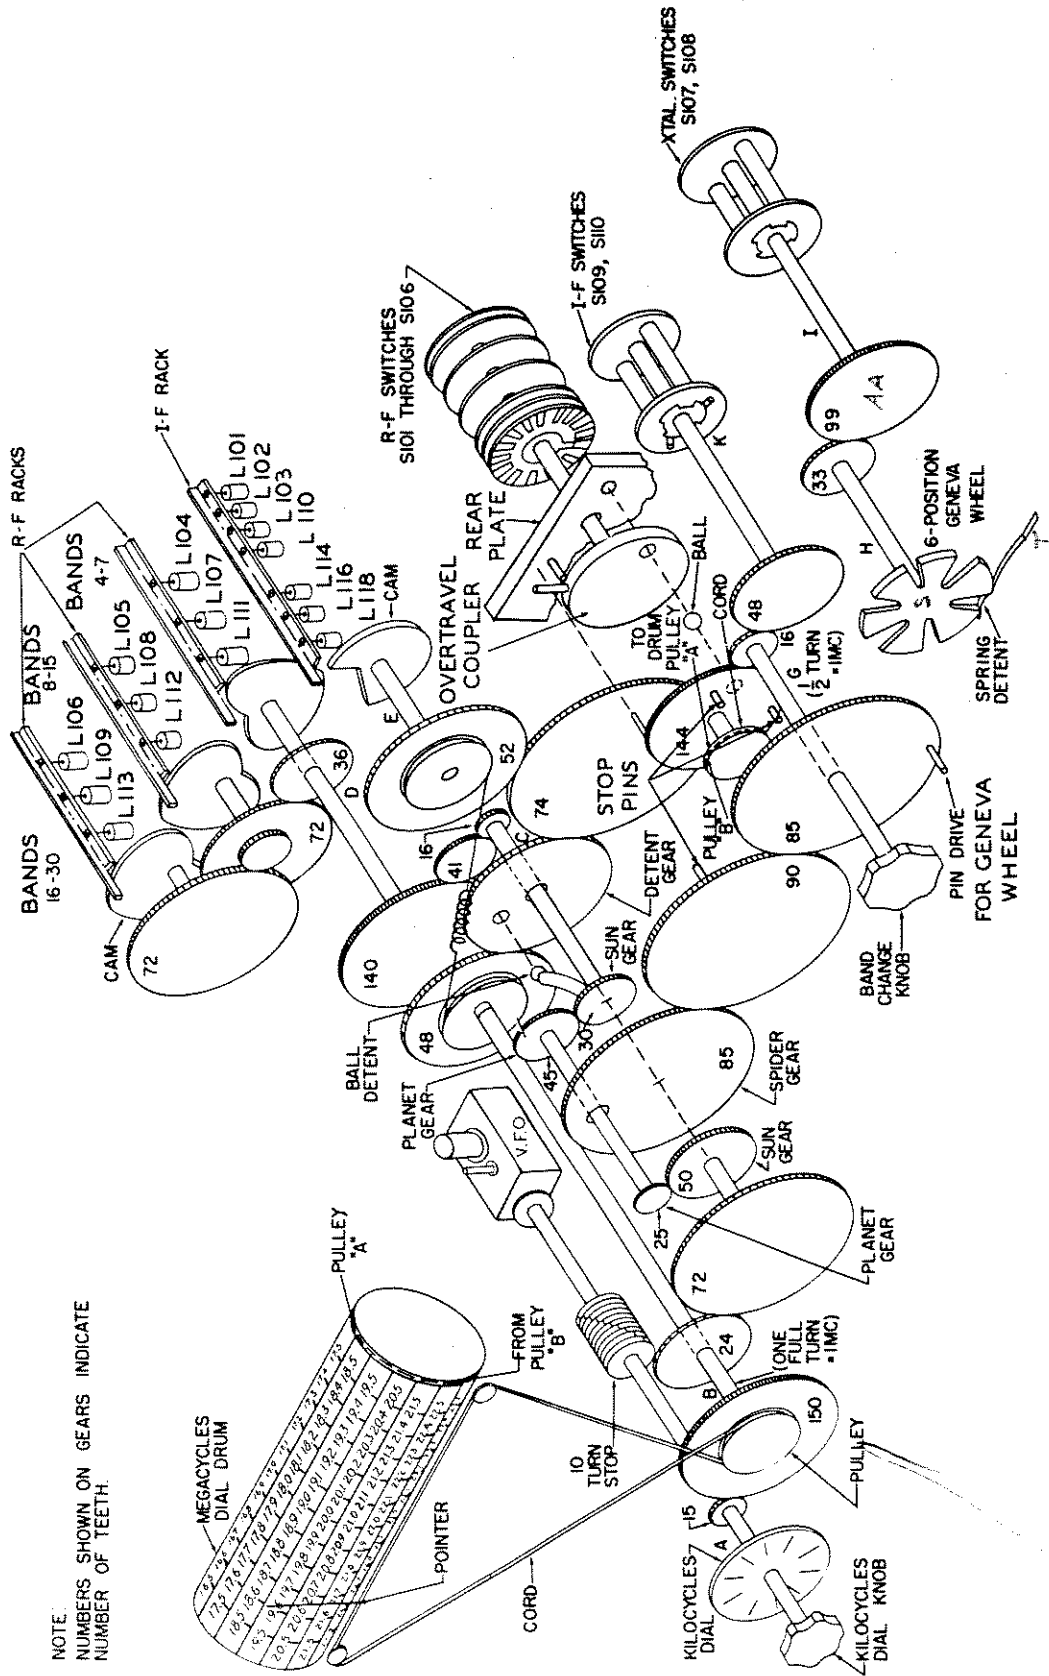

Figure 4-2 Mechanical Block Diagram
Switch sections of the band switch are ganged with the three slug tables through an overtravel coupler. This overtravel coupler drops the band switch at band 16 and continues to operate one position for each band as usual. Refer to figure 4-2. This mechanical diagram shows the gears and connecting shafts associated with band change and tuning. Shafts associated with changing bands are C, D, G, H, I, K, and the overtravel shaft. On band 1 radio frequency coils L101 and L110 are switched by means of the BAND CHANGE knob through the overtravel shaft and shaft G. On bands 2 and 3, the r-f coils are selected by the BAND CHANGE knob through the overtravel shafts and shafts G and K, variable i-f coils L116 through L119 being used as additional r-f coils on these bands. On bands 4 to 7, the coils
4.1.2. TUNING. - All r-f, mixer and variable i-f coils, as well as the variable frequency oscillator coil, are permeability-tuned by powdered iron cores. While tuning, these slugs move in and out of the coils at a rate determined by a cam or by a lead screw. Four slug racks or tables are used in the 5LJ-2 receiver to perform the function of tuning the r-f, mixer and variable i-f stages. The group of three slug tables in the rear portion of the chassis tunes the r-f and first mixer stages when the receiver is operating in the 3.5 to 30.5 mc frequency range (bands 4 to 30). The fourth slug table, located at the right hand edge of the receiver, tunes the r-f stage, the first mixer grid, the third mixer grid and the variable i-f coils when receiving in the range 0.5 to 1.5 mc. It tunes the r-f stage and variable i-f coils L116 and L118 when receiving in the range 1.5 to 2.5 and 2.5 to 3.5 mc. When receiving in the range 3.5 to 30.5 mc, this slug table tunes only the variable i-f coils L116 and L118. During tuning, positions of the slug tables are varied by a system of gears and cams; see figure 4-2. On band 1 (0.5 to 1.5 mc) coils L101 and L110 are tuned through this frequency range by the main tuning knob through shafts A, B, C, and E. On bands 2 and 3 (2.5 to 1.5 and 3.5 to 2.5), tuning is done by the main tuning knob through the same shafts -- A, B, C and E. On band 4 to 7, the main tuning knob tunes coils L104, L107 and L111 over one-fourth of their tuning range through shafts A, B, C and D and the differential shafts. The BAND CHANGE knob moves this same rack through shafts G, C, D and the differential in four steps. Each step is equal to one-fourth of the coils' tuning range, and the shafts are positioned by means of the detent. Thus L104, L107, and L111 are tuned in one megacycle steps by the BAND CHANGE knob, and between these steps are tuned by the main tuning knob. On bands 8 to 15, coils L105, L108, and L112 are tuned through shafts A, B, C, D and the differential. Bands 16 to 30 are also tuned through shafts A, B, C, D and the differential. Each of the two variable frequency i-f channels covers one megacycle range and is tuned by means of the main tuning knob through shafts A, B and E. The proper channel is selected by the BAND CHANGE knob through shafts G and K.